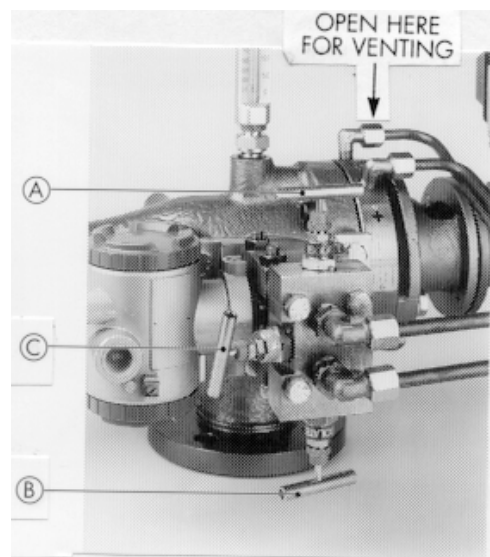

Figure 9, Block valves and equalizing valve on dP-transmitter
1. Close valves A and B and open equalizing valve C at the dP-transmitter manifold (see Figure 9).
4. Vent system by unscrewing pipe coupling in "-" (minus) sensing line between sensor and dP- transmitter. (See Fig. 9 and label on sensor housing).
6. Open manifold valves A and B (Figure 9).
8. Close equalizing valve C (Figure 9)
2. Open equalising valve (C, Figure 9) on transmitter manifold.
5. Close equalising valve (C, Figure 9).
2. Open equalizing valve C (Figure 9) on transmitter manifold.
2. Make sure that valves A and B of the manifold (Fig. 9) are completely opened and that equalising valve C is completely closed.